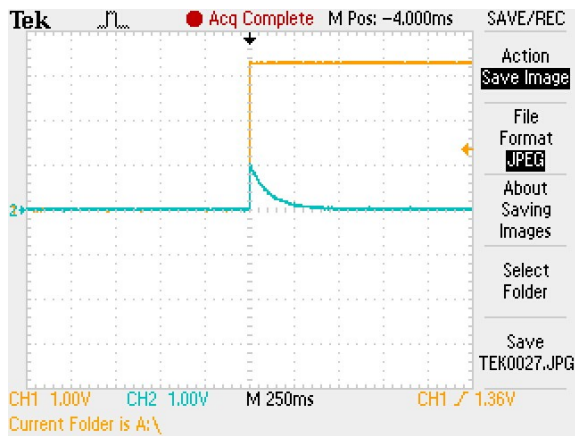

Figure 4: Startup Pop-Noise without PUNK
8. Waveform shown in Figure 4 to Figure 9